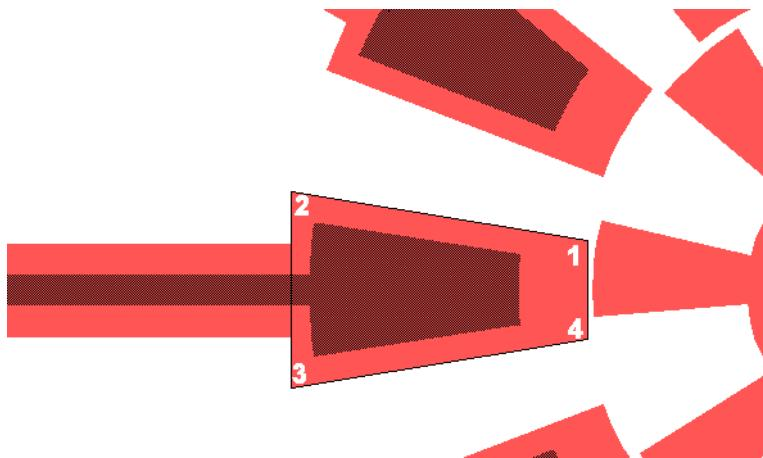

Figure 34: Creating the all angle polygon
- Select the **Window Zoom** tool to arrange the view in such a way that the left-most stator is visible (Figure 34).
- Left-click the first numbered vertex to begin drawing the polygon. Left-click the second and the third vertices, then complete the polygon by right-clicking the fourth numbered vertex (Figure 34).